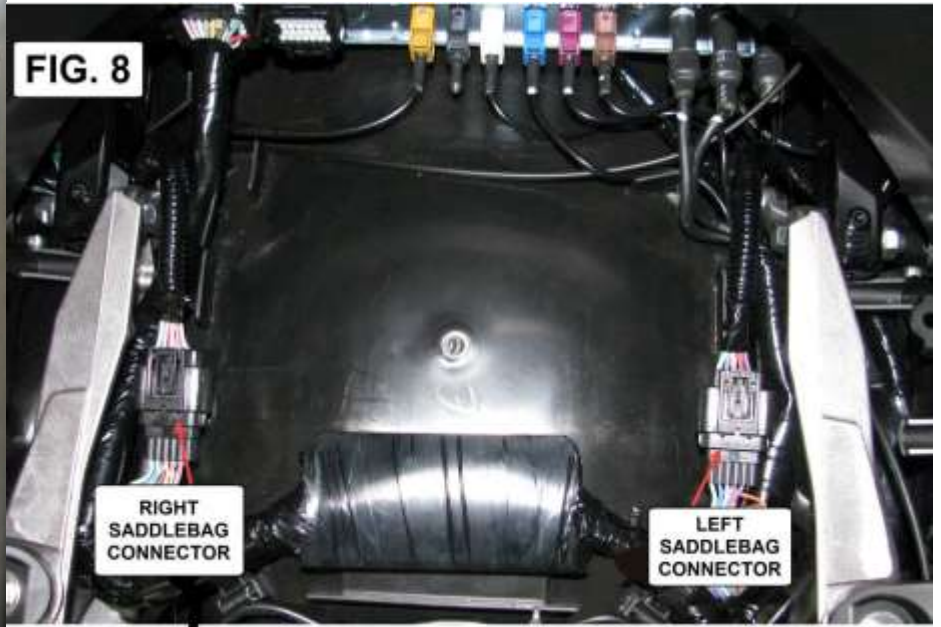
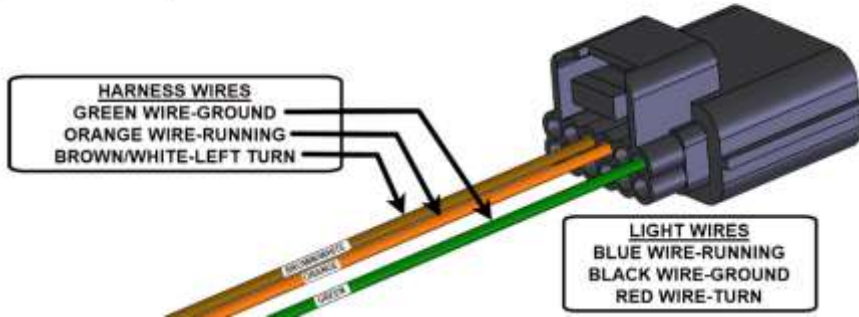

FIG. 9
FIG. 10
14. CONNECT WIRES FROM NEW LIGHTS TO CORRESPONDING WIRES IN THE SADDLEBAG WIRE HARNESS (FIG. 8 SHOWS CONNECTOR LOCATION) USING THE T-TAPS AND CRIMP SPADES SUPPLIED (USE FIG. 9 FOR LEFT LIGHT. USE FIG. 10 FOR RIGHT LIGHT)